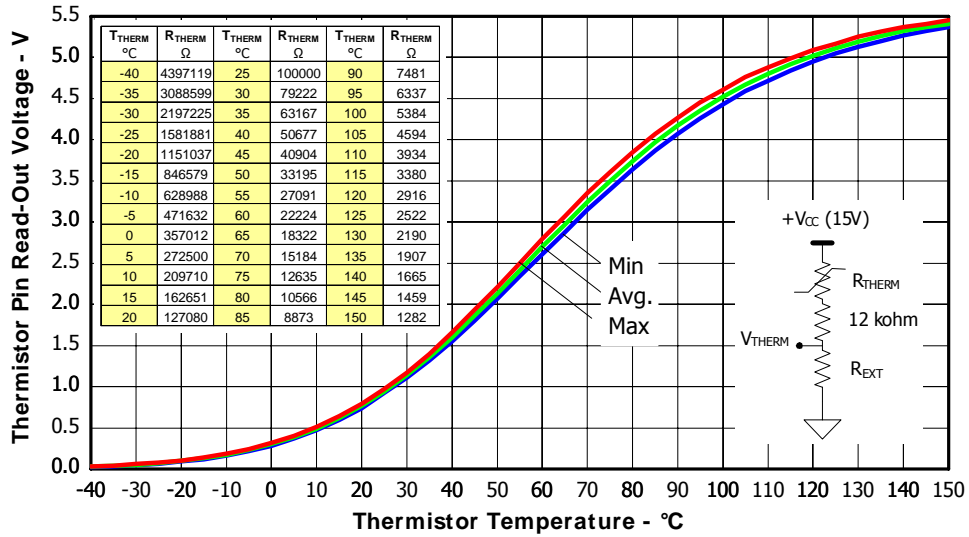

Figure 9. Thermistor Readout vs. Temperature (7.5kohm pull-up resistor, 5V) and Nominal Thermistor Resistance values vs. Temperature Table.
3. Value of the boot-strap capacitors depends upon the switching frequency. Their selection should be made based on IR design tip DN 98-2a, application note AN-1044 or Figure 9. Bootstrap capacitor value must be selected to limit the power dissipation of the internal resistor in series with the V_{CC} . (see maximum ratings Table on page 3).